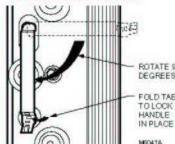

Fig. 5. Installing cell handle.
1. Hold the handle while inserting the solid tab on the back of the handle into the slot in the cell. Turn the handle 90 degrees clockwise to align the divided tab with the square hole. See Fig. 5.